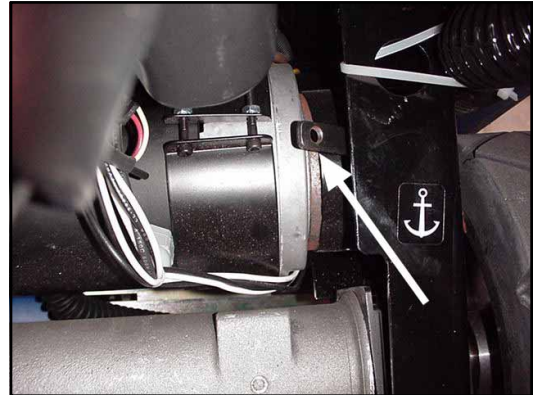

Figure 18
**How to Move the Machine Without Power (see figure 18)**